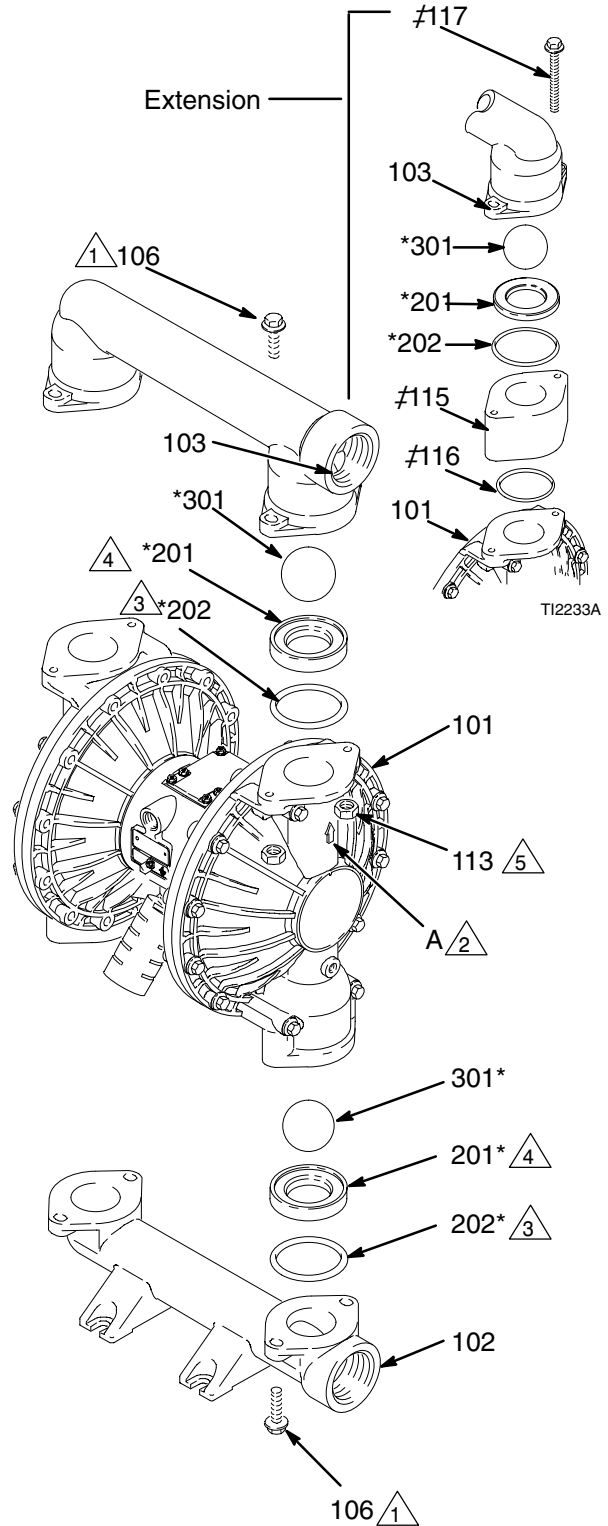

Fig. 10
3. Using a 10 mm socket wrench, remove the four bolts (106) holding the outlet manifold (103) to the fluid covers (101). See Fig 10.
4. Remove the seats (201), balls (301), and o-rings (202) from the manifold.
2. Reassemble in the reverse order, following all notes in Fig. 10. Be sure the ball checks are assembled **exactly** as shown. The arrows (A) on the fluid covers (101) **must** point toward the outlet manifold (103).